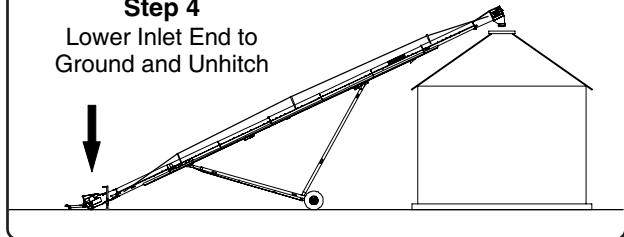

Fig. 7A
1. With the discharge directly over the opening, use the hitch jack to take pressure off of the hitch locating bolt and remove the bolt (See Fig. 7A).